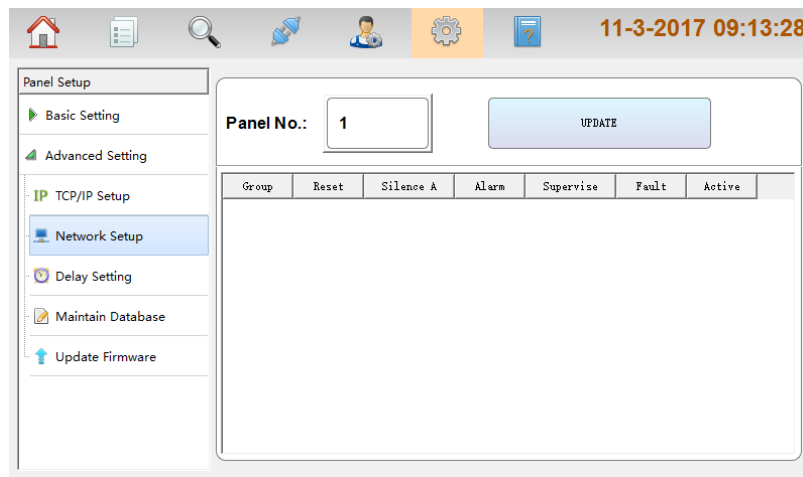

Fig.5-6
- Network Setup: clicking **Network Setup** in **Advanced Setting** menu pops up the screen for setting the network on the right. Users can set up based on actual situation. Refer to the figure below Fig.5-6.